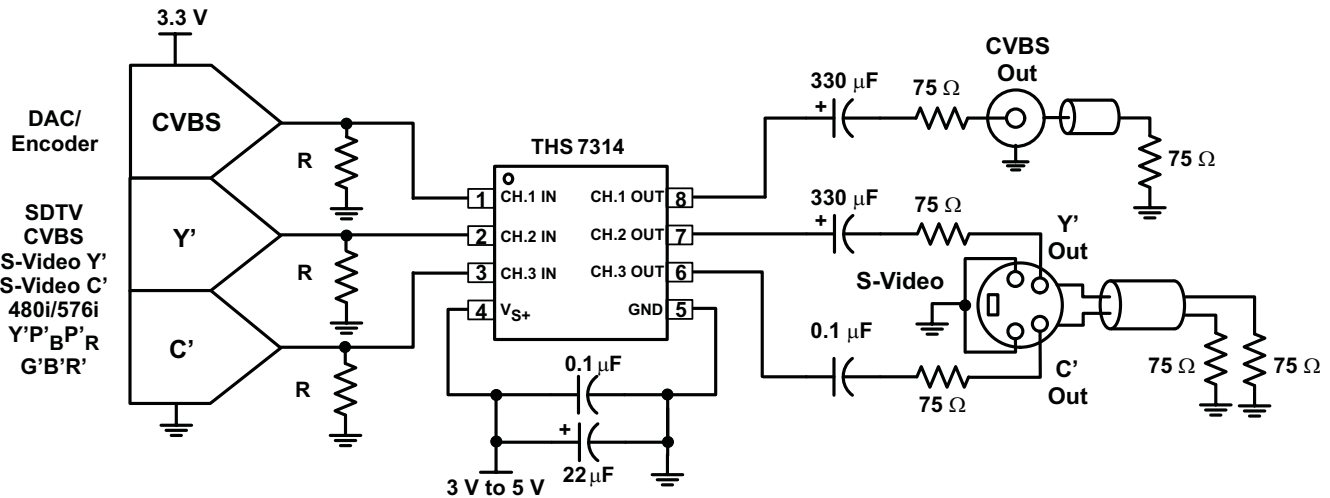

Figure 29. Typical SDTV CVBS/Y'/C' Inputs From DC-Coupled Encoder/DAC With AC-Coupled Line Driving
A typical application circuit using the THS7314 as a video buffer is shown in Figure 29. It shows a DAC (or encoder such as the THS8200) driving the three input channels of the THS7314. Although the S-Video Y'C' channels and the Composite video channel of a Standard Definition video (SD) system are shown, these channels can easily be the Y'P'_BP'_R (sometimes labeled Y'U'V' or incorrectly labeled Y'C'_BC'_R) signals of a 480i or 576i system. These signals can also be G'B'R' (R'G'B') signals or other variations.